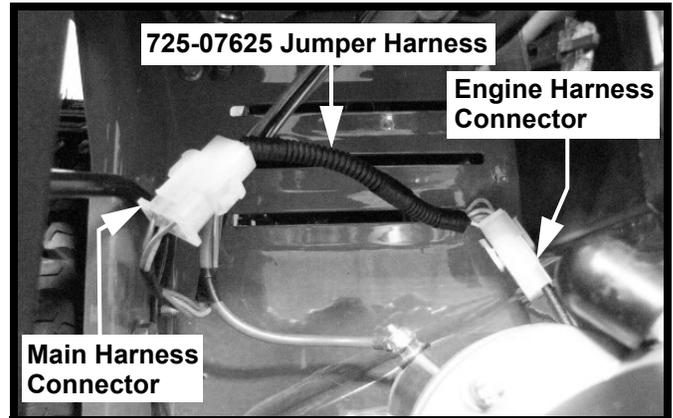

FIGURE 5
9. When installed the **725-07625** jumper harness should look like Figure 5.